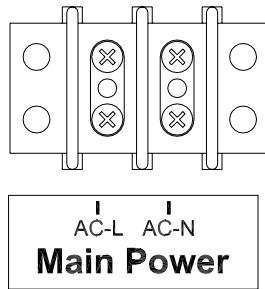

Figure 14 Power to Scoreboard Connections
3. Connect the AC line wire and AC neutral wire to the **Main Power** terminal block on the junction chassis according to Figure 14.